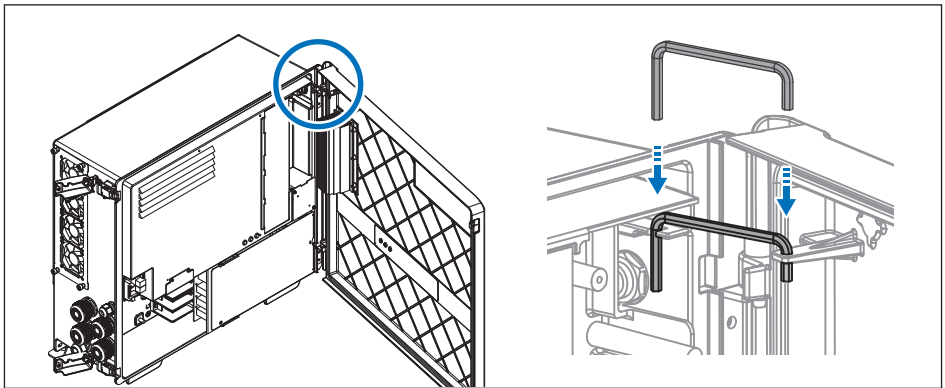

Figure 5-2: To secure door by hexagon driver
2. Open the front door and use the hexagon wrench to fix the door (**Figure 5-2**).
3. Remove the hexagon wrench (**Figure 5-2**) and close the door.